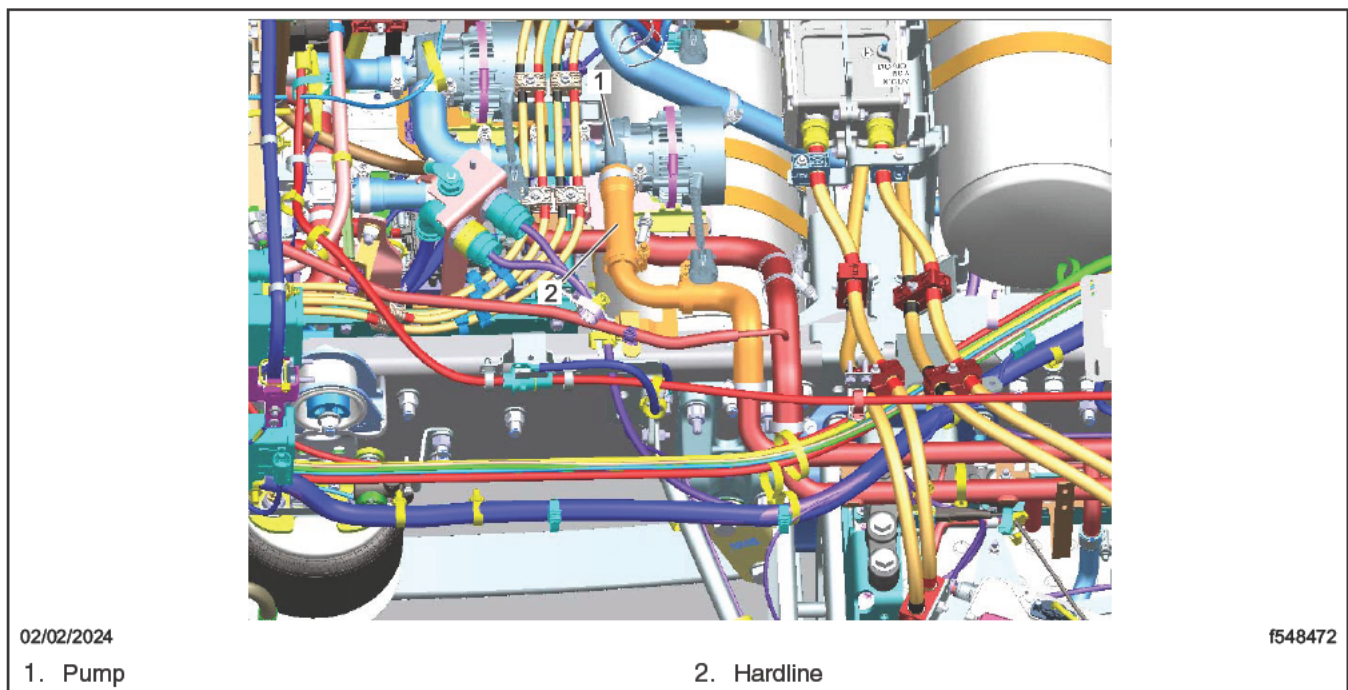

Fig. 7, Disconnecting Hardline from Pump
23. Remove the mounting fasteners that attach the hardline to the pump, then disconnect the hardline from the pump. See Fig. 7.